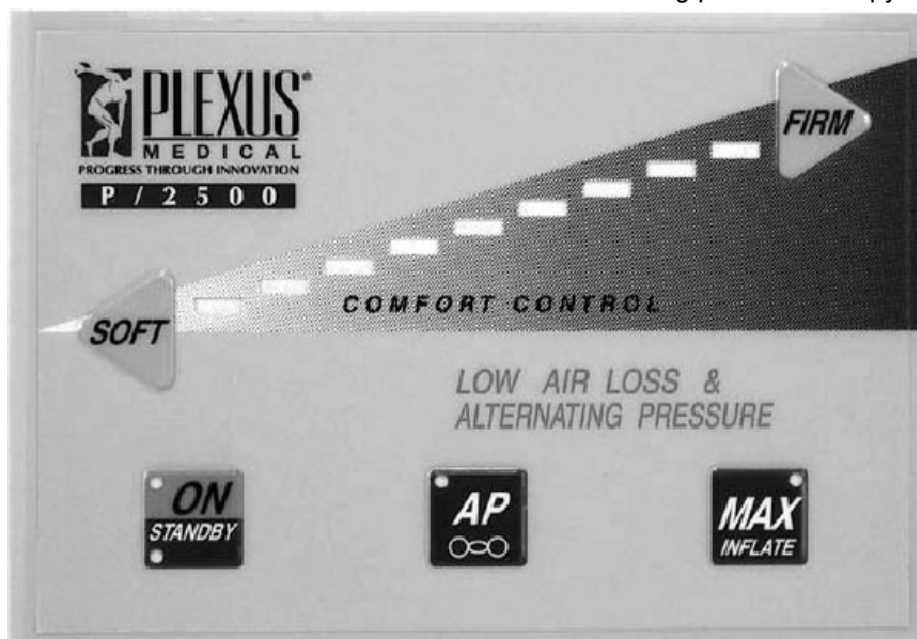

Figure 1 – C/2500 Front Control Panel
5.1 Front Panel Features (see figure 1)